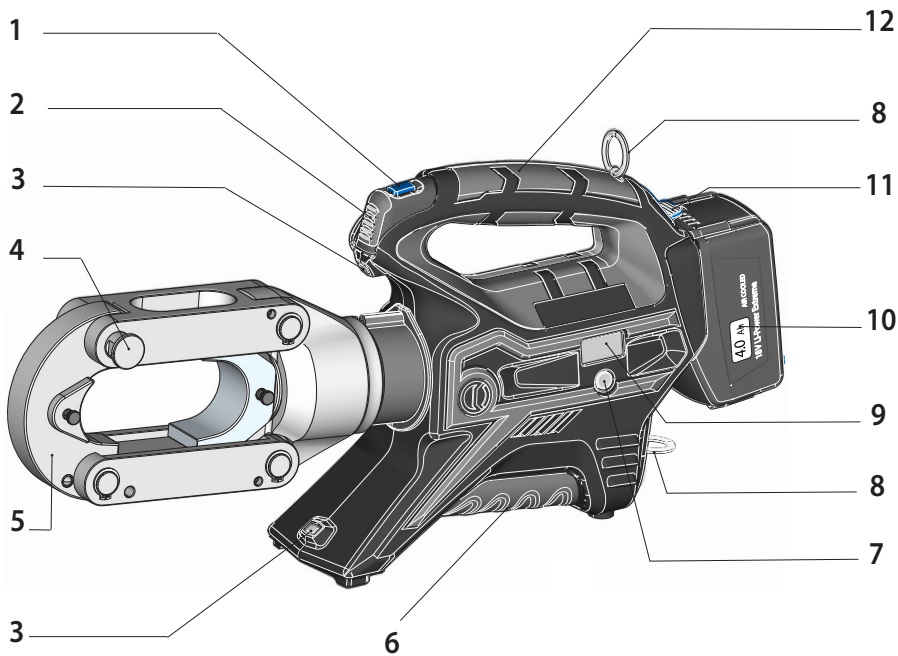

FIG. 6
The tool can be easily carried using either the main handle (12) or the shoulder strap attached to the two rings (8) (Ref. to Fig. 6).